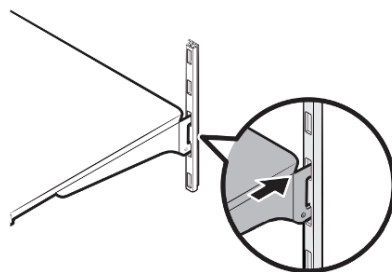

Figure 2
- Hold the shelf at an angle so the front is higher than the back, and then insert the top hook into the top shelf notch (see *Figure 2*).